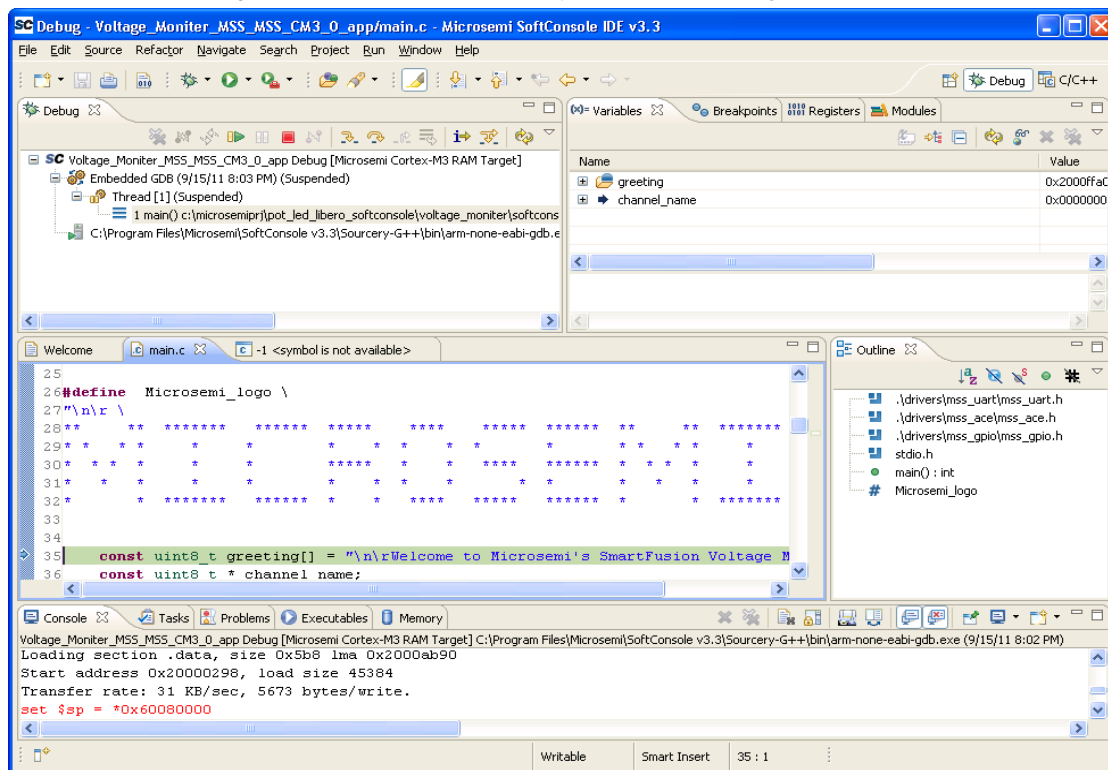

Figure 32 · Debug Perspective
7. The Debug Prospective window is displayed, as shown in Figure 32 . .